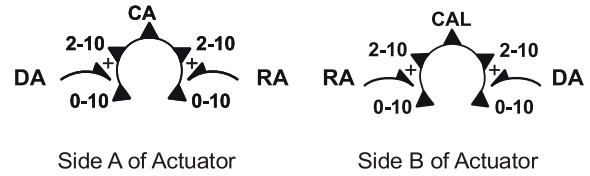

Figure 17: Mode Selection
The D(M)S24-180 Series Electric Spring Return Actuators are factory set for Direct Acting (DA) operation. In DA mode, applying an increasing input signal to the control input drives the actuator away from the spring return position. Reverse Acting (RA) operation is also available. In RA mode, applying an increasing input signal to the control input drives the actuator toward the spring return position. Figure 16 and Figure 17 indicate how the drive direction for the actuator depends on the spring return direction and the position of the mode selection switch.
The D(M)S24-180 Series Electric Spring Return Actuators are factory set at Direct Acting (DA), DC 0 to 10 V control input (Figure 17). To change to RA operation, move the mode selection switch from DA to RA. The DC input signal is selectable from DC 0 to 10 V or from DC 2 to 10 V, which corresponds to 0 to 95° rotation. If the rotation range is reduced, the end-stop is reached with a reduced input signal.